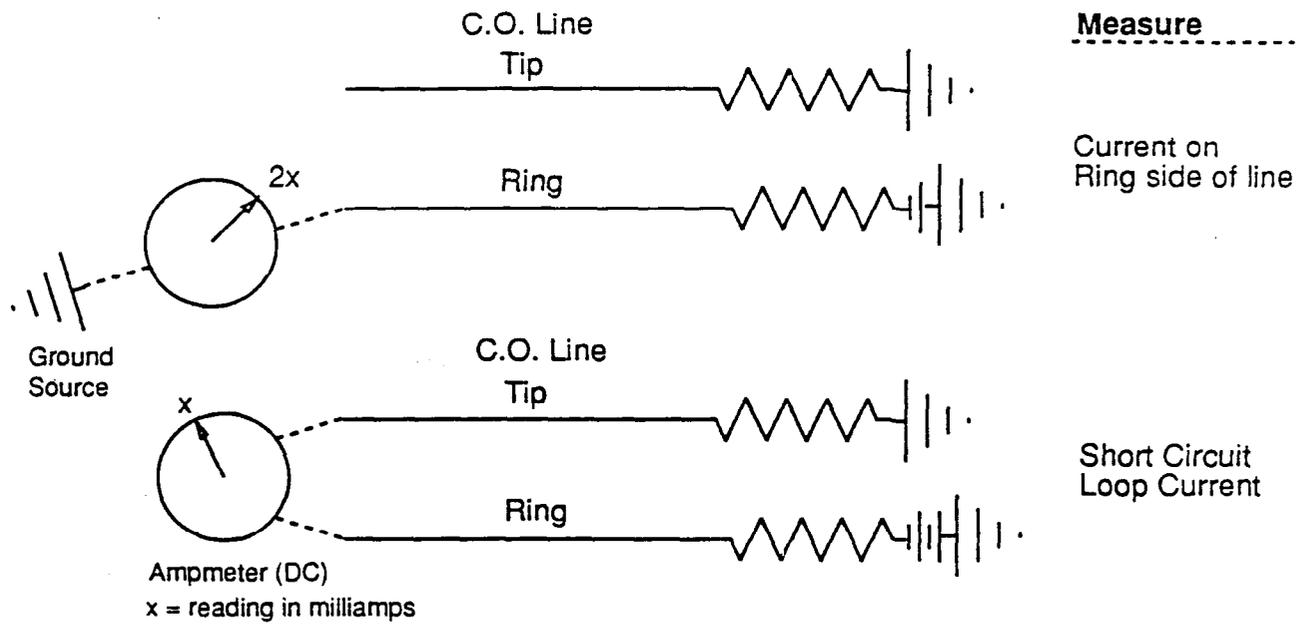

Figure 5-2 Ground Verification
- The current, as measured between the Ring side of a C.O. Line and the ground source, should equal at least twice the short circuit loop current, measured between the Tip and Ring of that C.O. line. See Figure 5-2.